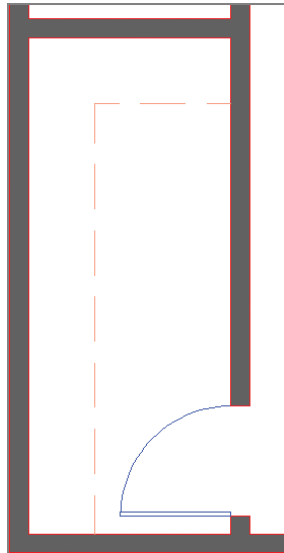

FIGURE 6.21 Hidden lines representing a high shelf in the closet
7. Type **48** (or **50** for metric), and press Enter. The lines appear with breaks indicating that the shelf is above the section plane (see Figure 6.21).